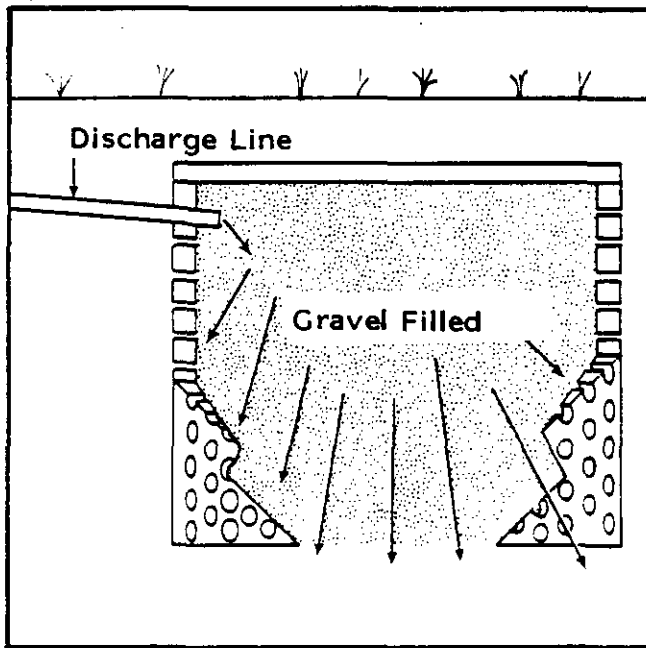

Figure 2. DRY WELL
**DRY WELL DISPOSAL** - The dry well is basically a large hole in the ground that is filled with gravel. Discharge water flows into the hole and through the gravel. This method is practical only in a porous soil environment such as sand, and will not work in a non-porous ground environment, such as clay. This is because the discharged water must be able to pass through the gravel, then seep through the porous soil back to the water table below. (Figure 2) A percolation test for sizing is necessary.